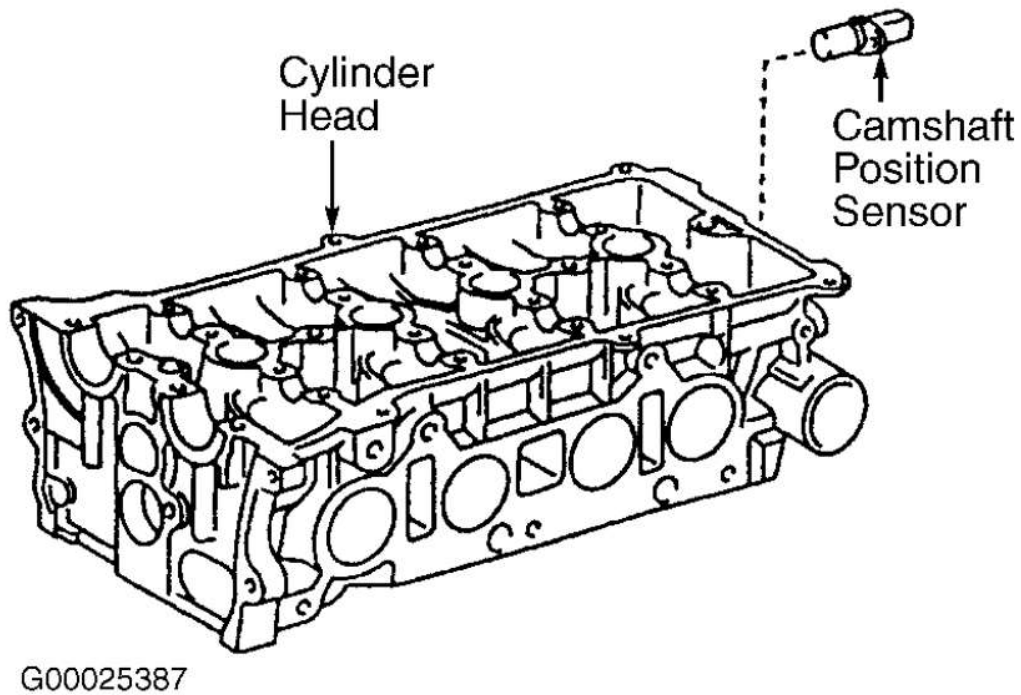
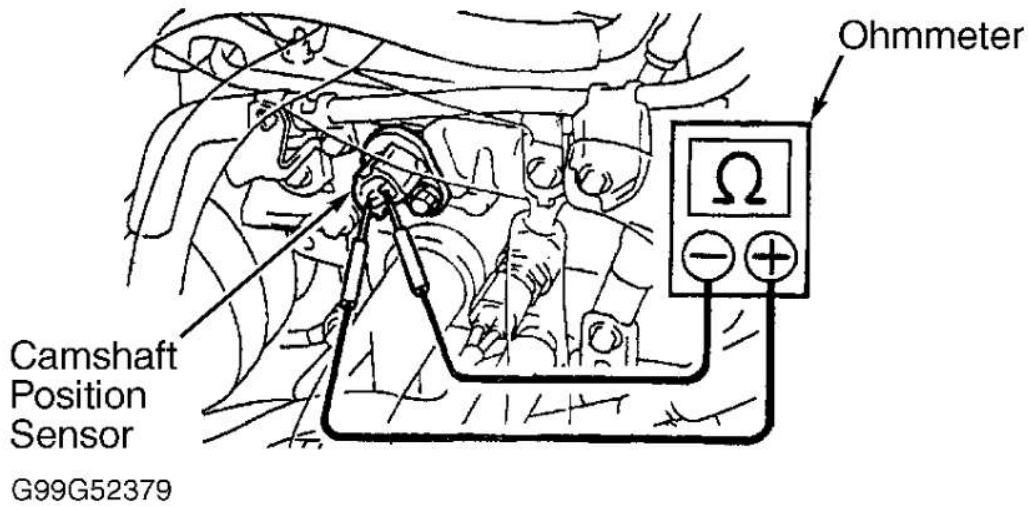

Fig. 38: Locating Camshaft Position Sensor (Camry, Camry Solara & Highlander)
Fig. 39: Locating & Testing Camshaft Position Sensor (ECHO)
1. Camshaft position sensor may also be referred to Variable Valve Timing (VVT) sensor. Disconnect electrical connector at camshaft position sensor. Camshaft position sensor is located on end of cylinder head at flywheel end of engine, just at end of intake camshaft. See **Fig. 38** and **Fig. 39** . Using ohmmeter, check resistance between electrical terminals on camshaft position sensor.